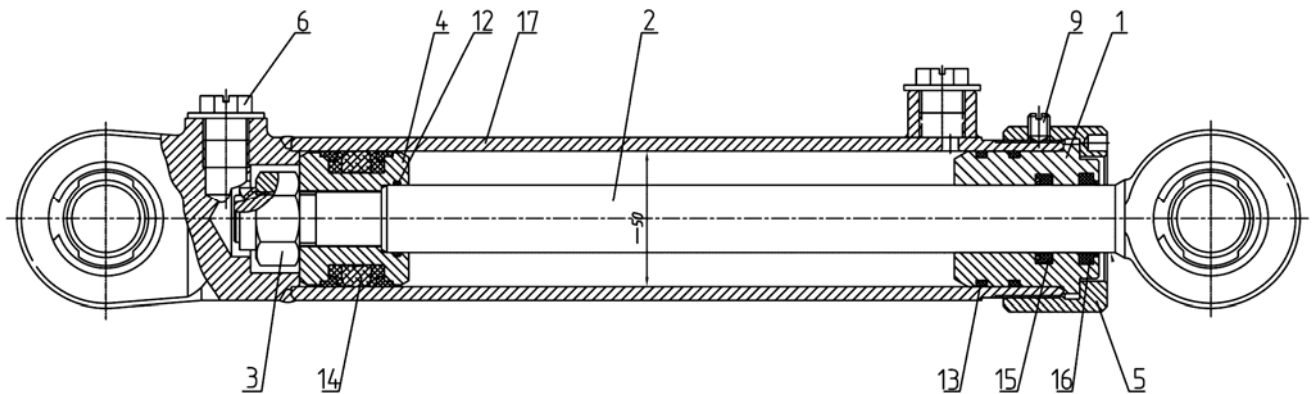

Figure 7.4 Hydraulic cylinder
- unscrew screw 9 (Figure 7.4);